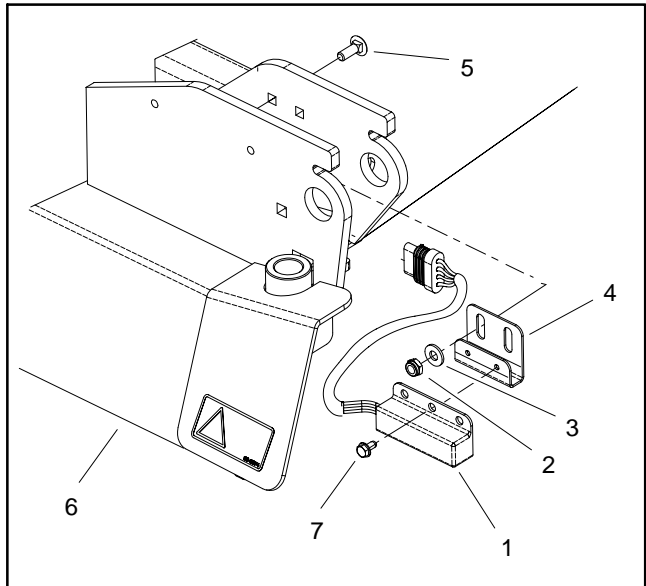

Figure 4
3. Loosen two (2) lock nuts that secure switch bracket to center cutting deck (Fig. 4).